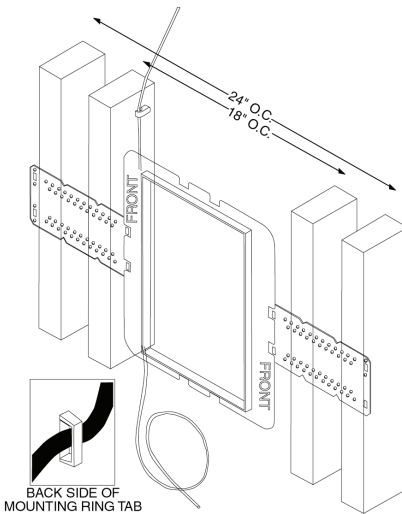

FIGURE 9
Step 2. After you have determined the speaker locations using the guidelines above, secure a 16 gauge 2 conductor cable to the mounting ring tabs (see figure 9), such as the M&S Systems MS16X, for attachment to the speakers after the dry wall has been installed. Leave at least 18 inches additional cable for the connection during final speaker installation. Run the other end of the speaker cable to the audio source.